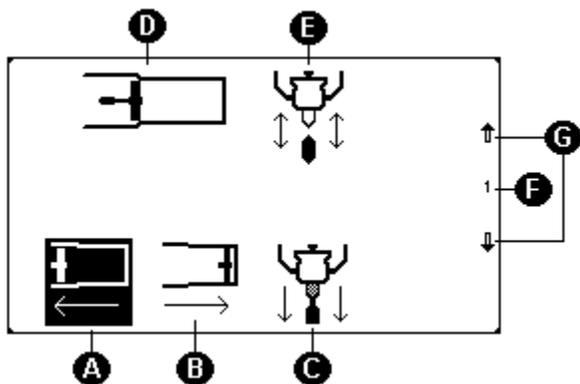

Figure 17: Maintenance Screen (M1)
- When the Current Dispense Valve Mode (E in Figure 17) is , the valve will open and stay open regardless of the piston position.